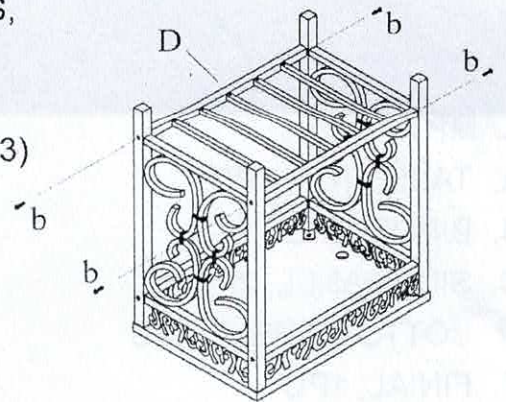

FIG 3
4. ATTACH BOTTOM FRAME (D) TO BETWEEN THE BIPODS, ALIGN THE HOLES ON BIPODS (B) AND BOTTOM FRAME (D), THEN TIGHTEN THEM BY SCREWING BOLT (b). NOW TIGHTEN ALL BOLTS COMPLETELY. (FIG 3)
STEP 3: Hold the smaller shade ring with one hand and insert the pivot bracket with your other hand into the smaller shade ring one at a time as shown in the fig 3 , fig 4 & fig 5.